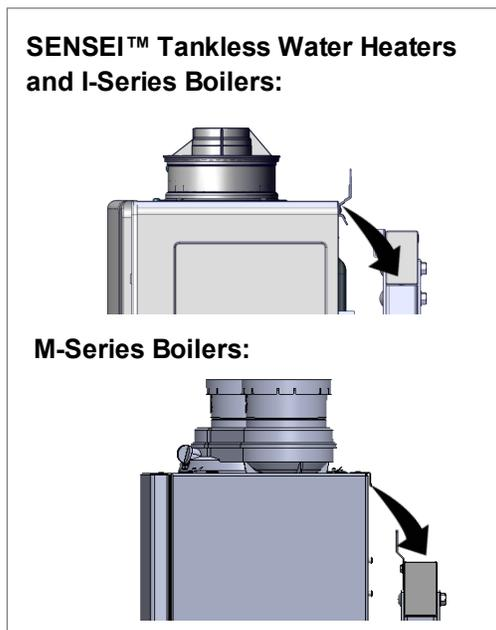

Fig 10. Hang Tankless Water Heater or Boiler onto Rack.
7. Hang the tankless water heater or boiler onto the hanging bracket (Fig 10).